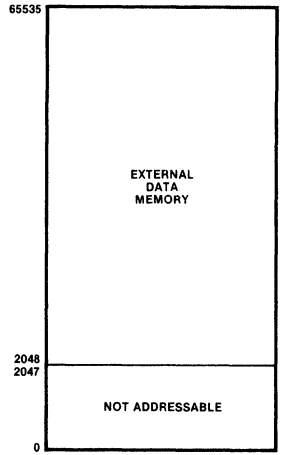

Figure 5. Data Memory Map
**Data Memory.** The Z8601 can address 62K bytes of external data memory beginning at locations 2048 (Figure 5). External data memory may be included with or separated from the external program memory space.  $\overline{\text{DM}}$ , an optional I/O function that can be programmed to appear on pin P34, is used to distinguish between data and program memory space.